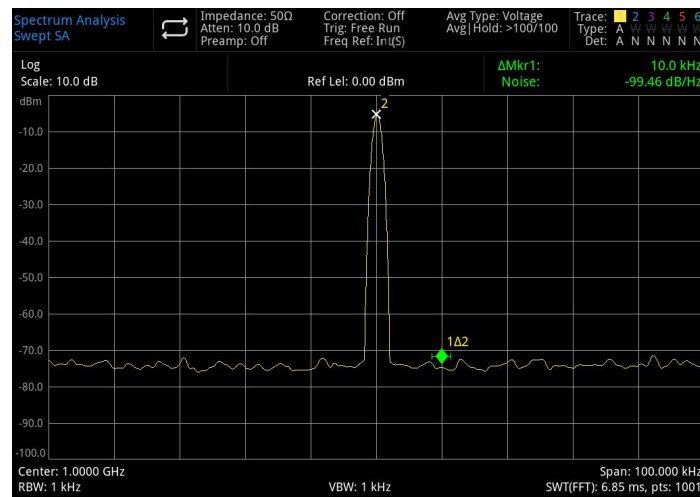

Figure 3-20 Phase Noise
3. Enable **Marker Function** > **Mark Noise**, as shown in Figure 3-20.